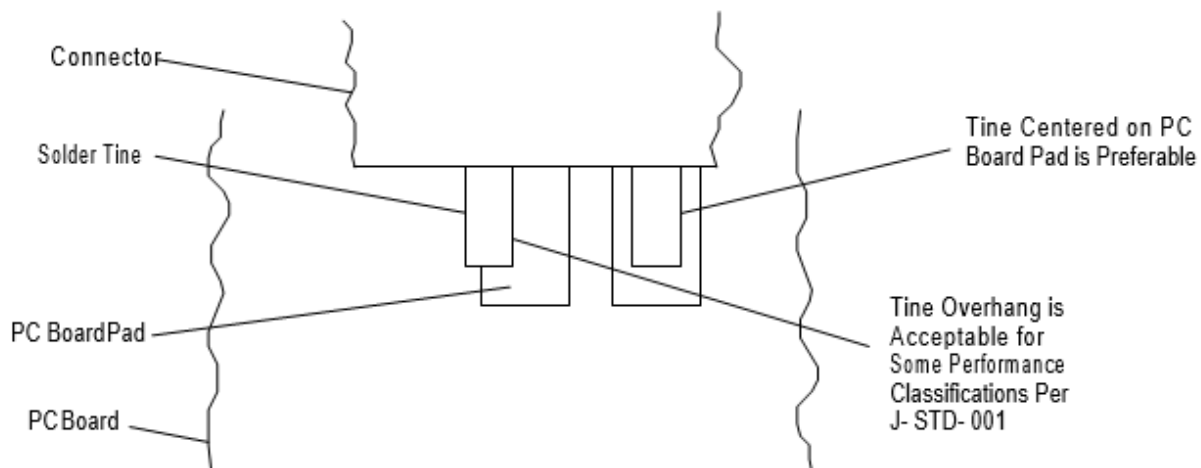

Figure 13
*Optimally, the connector solder tines should be aligned on the pc board pads. However, misregistration is permissible for certain performance classifications as specified in J-STD-001. See Figure 13.*